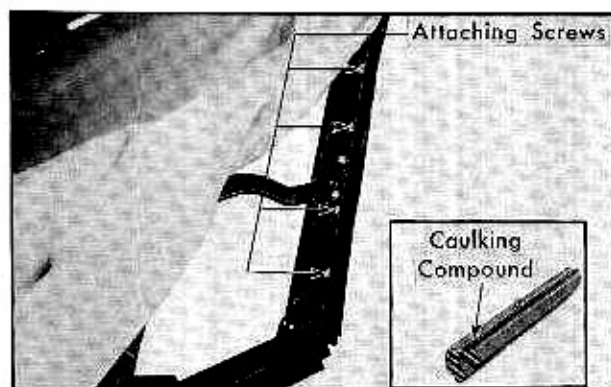

Fig. 3-49 Side Roof Rail Mechanical Sealing Strip (6257)
2. Remove weatherstrip attaching screws and nuts and washers, Fig. 3-49; then remove weatherstrip.
3. To install, reverse removal procedure. Apply a ribbon of body caulking compound to attaching surface of front and center side roof rail weatherstrips along entire length of parts as indicated in Fig. 3-49. Clean off excess sealer.
(46) Front Roof Rail Weatherstrip, Removal and Installation (6267)